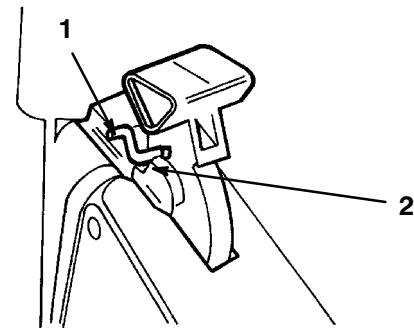

Figure 46
4. Pull the handle rearward until the handle latch locks in the notch in the bag door latch (Fig. 46).
Note: In Figure 46, the brush guard is not shown for the purpose of clarity.